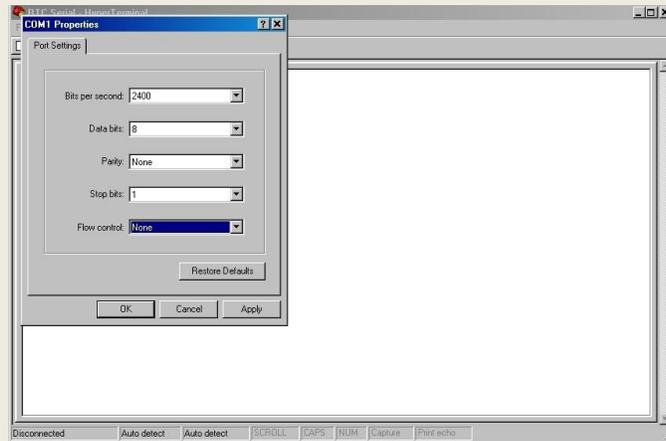

Fig. 10
4. Setup the port settings as shown in Fig. 10. Make sure Bits per second is 2400, Data bits is 8, Parity is None, Stop bits is 1, and Flow control is None. Click Apply, then OK.